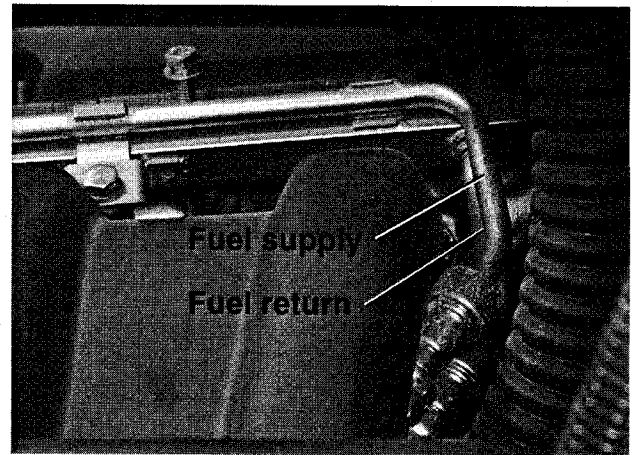

Fig. 11. Special fuel line fitting at fuel rail on M52/S52US engine. Use BMW special tool 16 1 050 to release locking fittings at ends of fuel lines.
14. Working at rear of intake manifold, label and then remove fuel supply and fuel return lines. Disconnect fuel lines from support bracket on manifold. See Fig. 11.